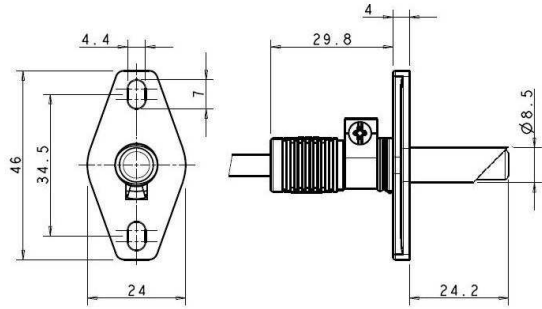
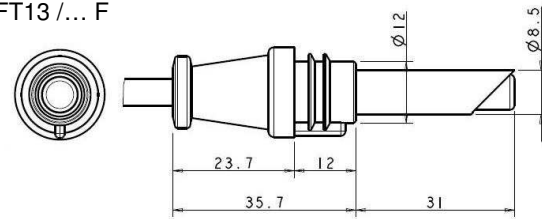
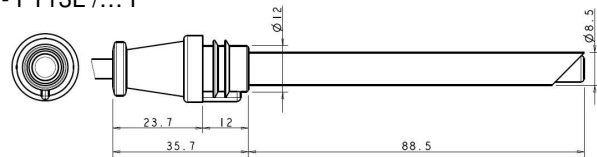

Figure 3
Figure 4
Figure 5
FTxx are available also with a protective transparent cap for frontal light source (option "F") as shown in figure 3 and figure 4.
Under particular test conditions which make sensing element dirty, it's available a version of FTxx with front views and covered by a special transparent protection (option F). For this version is available also FT13L: this fit in burner with the flame far away from the hole of insertion of phototransistor. See realization in figure 3, figure 4 and figure 5.
- 13L:** Phototransistor type FT13L (fig 5)
- F:** FT with frontal view and protective cap (fig 3, 4 and 5)